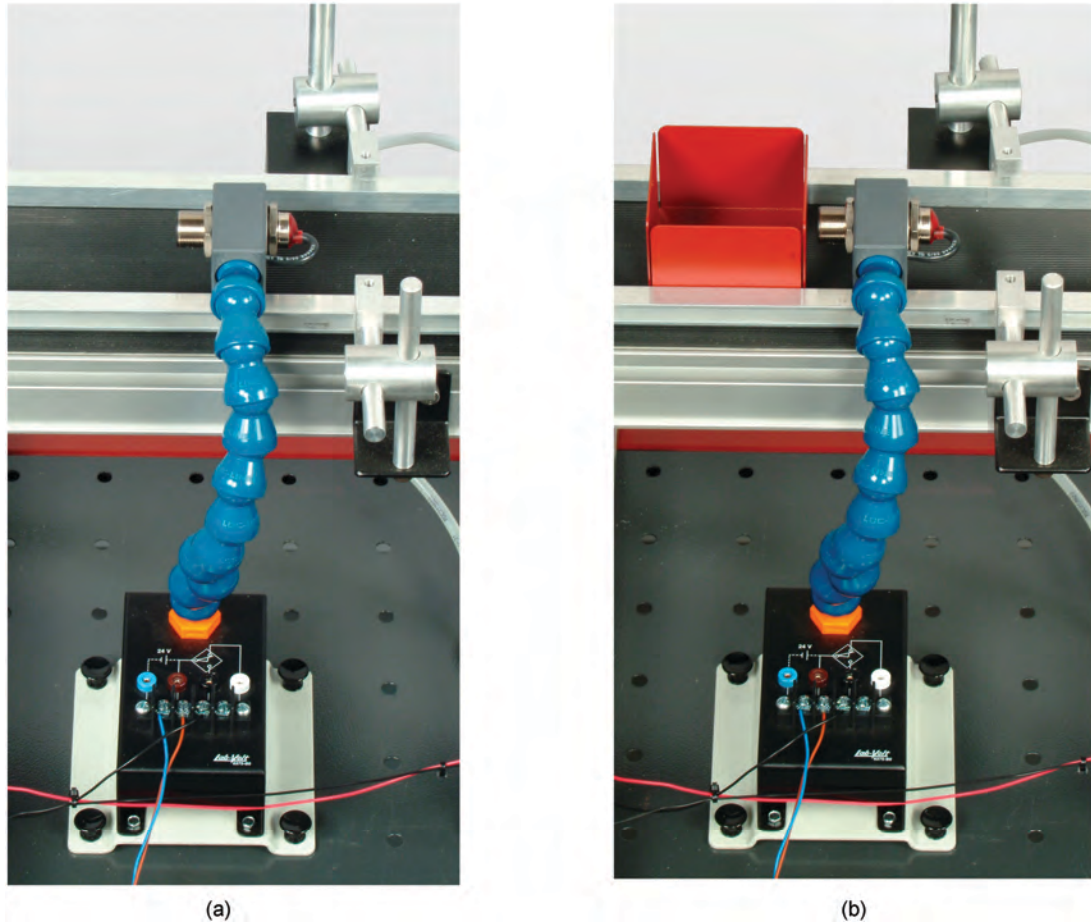

Figure 4-18. Installation of the Inductive Proximity Switch.
5. Install the Inductive Proximity Switch in the middle of the Flat Belt Conveyor as shown in Figure 4-18.